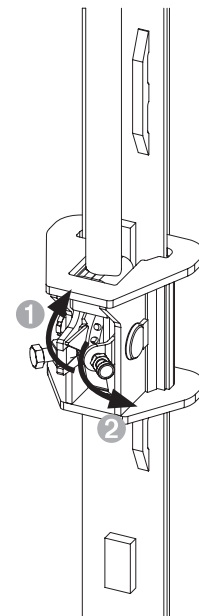

Fig. D2.01
1. Set all switch units in the climbing heads to "Climb rail" (Fig. D2.01)